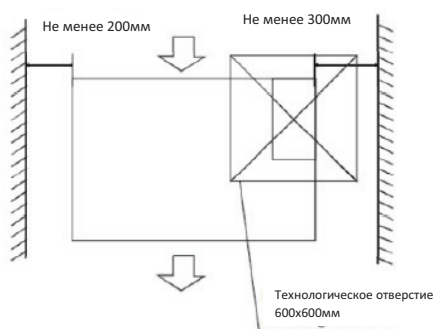

Fig. 7.2.1.
- Dimension Requirements on the installation space of the unit (fig. 7.2.1.):